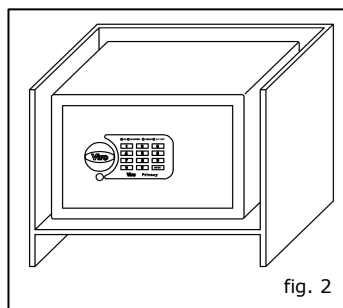

fig. 2
Free standing safes can be wall mounted by using dowels, fixed on a plane surface, for example into a piece of furniture (see fig. 2) or wall mounted using anchoring kit (item 4500.0758). **N.B. : for free standing safe wall installation it is necessary to follow same instructions as per wall safes.**